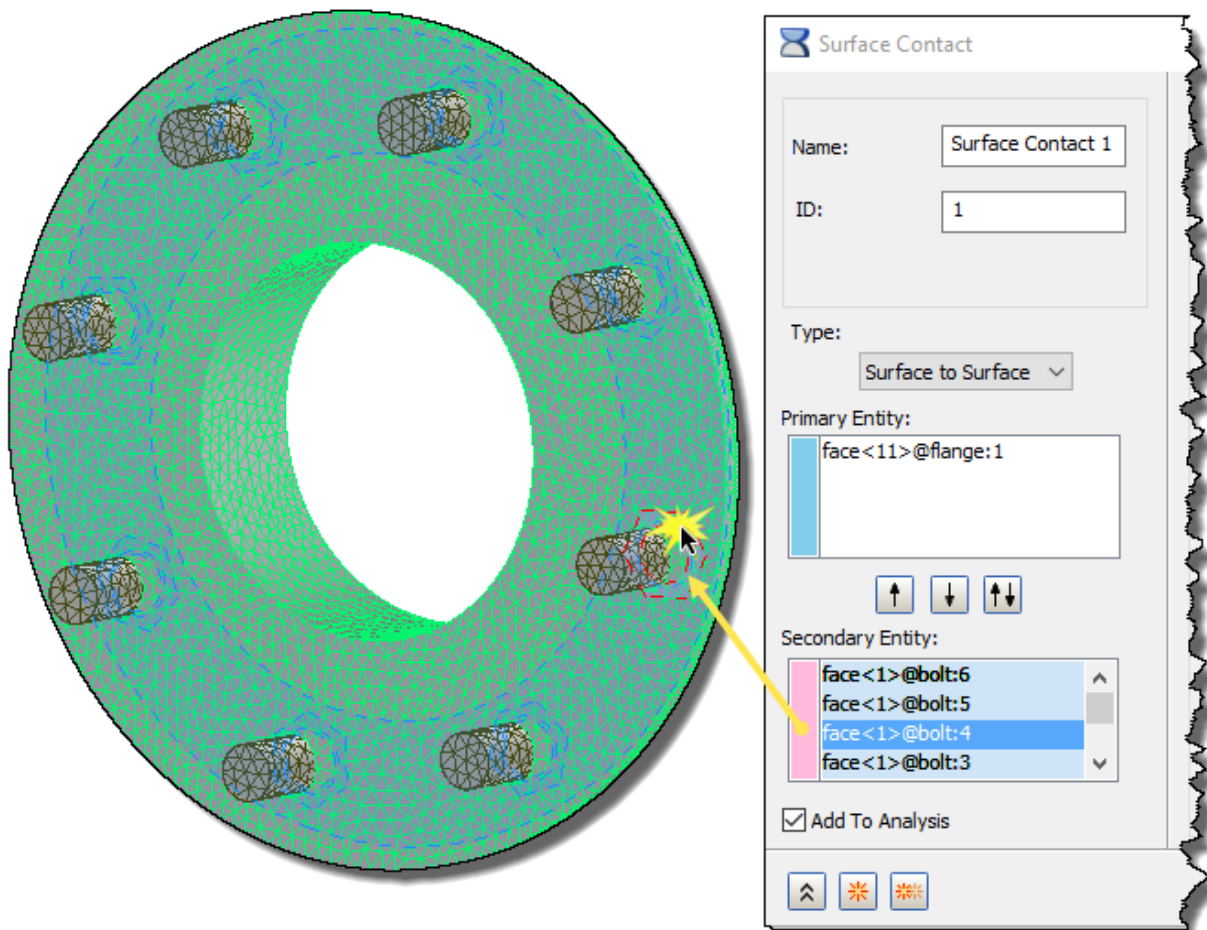

Figure 33 - Select face of bolt head "through" the invisible flange. Although the mesh is shown on the flange, the mesh cannot be selected.
3. Select the contact face on each bolt as the Secondary Entity. See Figure 33.